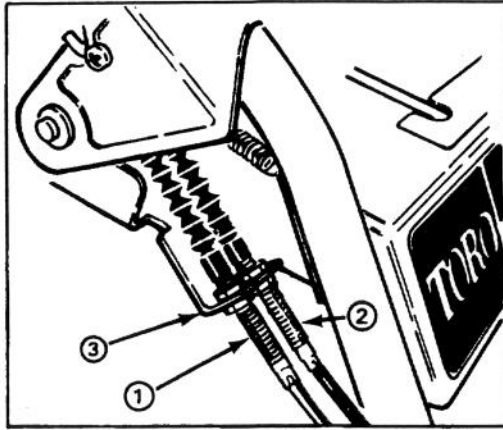

Figure 22
3. Loosen upper jam nut securing auger/impeller cable to mounting bracket (Fig. 22).
### ADJUSTING TRACTION DRIVE BELT (Fig. 22)
8. On control cable which corresponds to belt being replaced, loosen jam nuts securing cable to bracket (Fig. 22). Cable must be free to slide in bracket when changing belt(s).